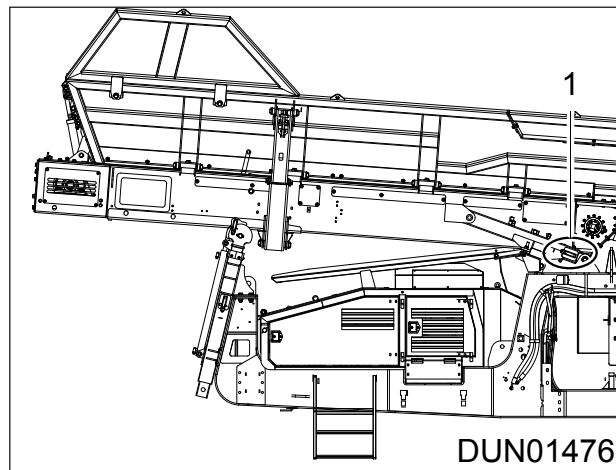

Figure 6.22 - Hopper in Transport Position
2. Remove pin (Item 1; Ref, Figure 6.22).